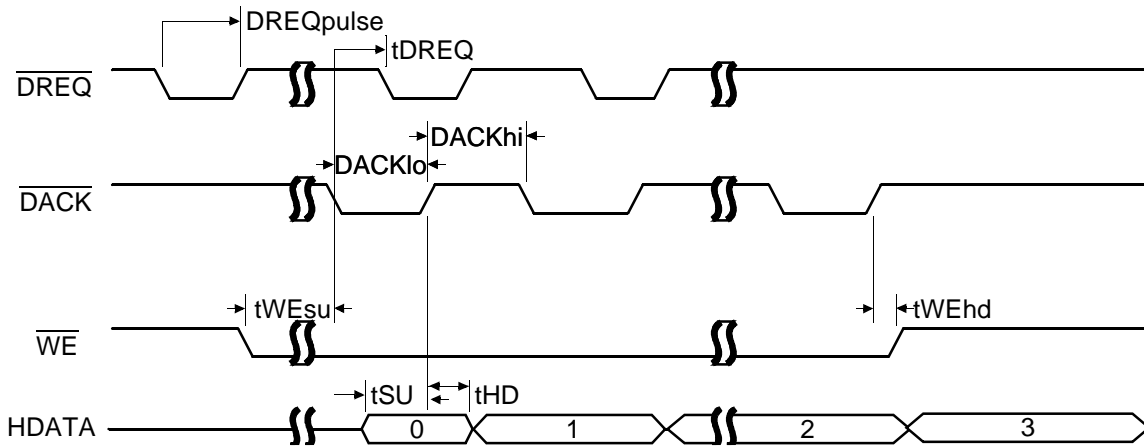

FIGURE 32. Single Write Cycle for DREQ/DACK DMA mode for assigned DMA channel EDMODx<14:11> NOT programmed to a value of 0.
* DREQ/ pulse width is programmable. Refer to Table 19 and figures 32 and 33.